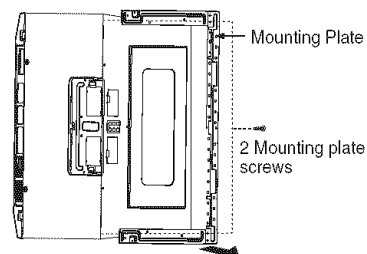

Figure 12
1. Remove mounting plate 2 screws from the mounting plate as shown and discard. See Figure 12.